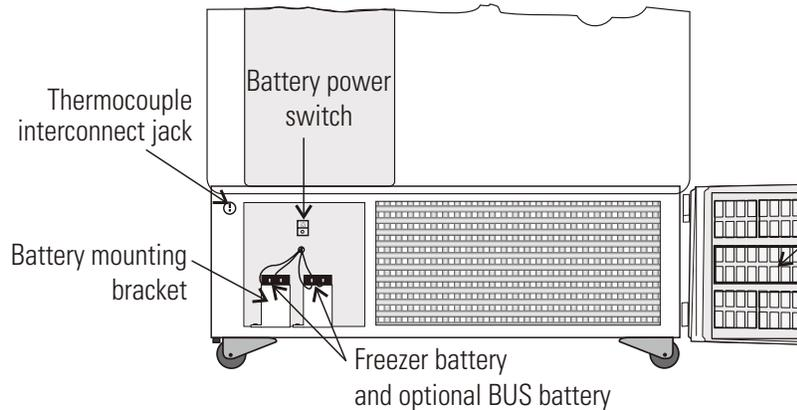

Figure 6. Battery Location
5. Install the BUS battery. Open the lower door by grasping the bottom left corner. The battery location is the front left corner of the compressor compartment. Locate the freezer battery. If the freezer battery is secured with a mounting bracket and wing nuts as shown in Figure 6, proceed to Step 7.
7. Directly above the battery(s) is the battery power switch. The battery power switch should be in the Off position (O). Remove the three nuts securing the battery bracket. Remove the bracket. Install the battery and secure (see Figure 6).